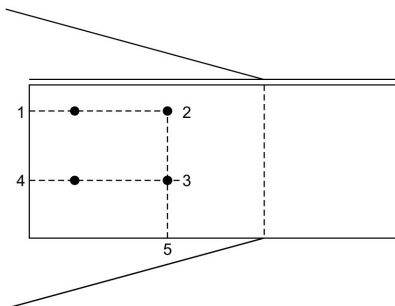

Fig. Q. 78
78. In the four bolt connection shown in Fig. Q. 78, block shear strength is along